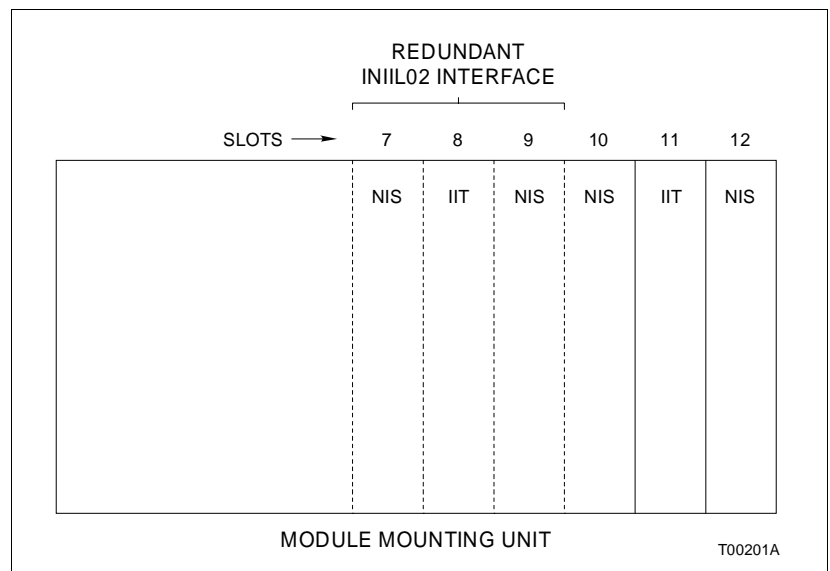

Figure 3-7. Typical INIIL02 Module Slot Assignment in the Module Mounting Unit
1. There must be three empty slots (side by side, refer to Figure 3-7) available in one MMU card cage to install one interface (6 slots for a redundant interface).